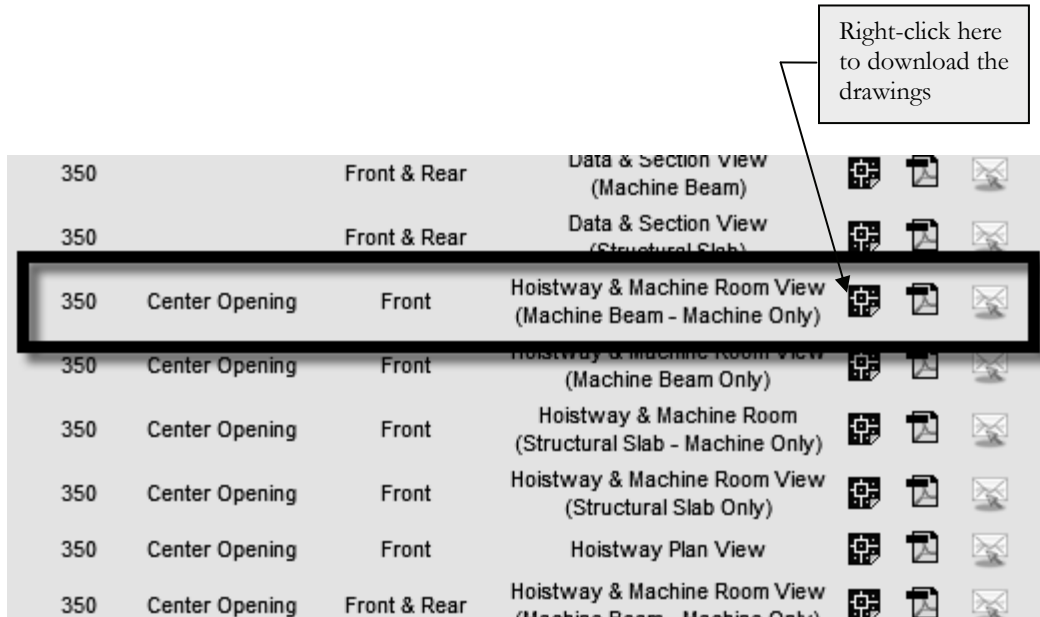

FIGURE 4-3.3 Elevator manufacturer's website
- Right-click the DWG icon next to **350 - Center Opening - Front - Hoistway & Machine Room View** as shown in Figure 4-3.3.